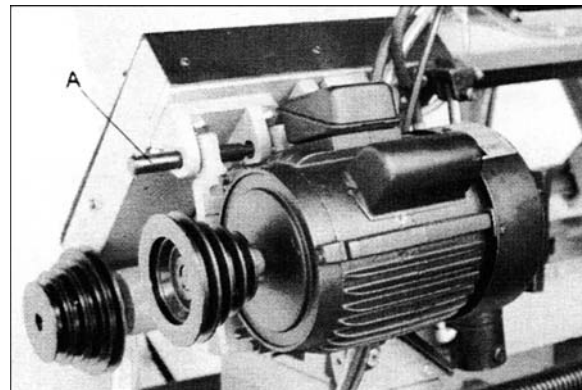

Figure 2
3. Remove shaft (A, Figure 2) from the motor mount bracket.